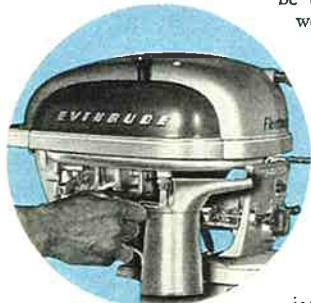
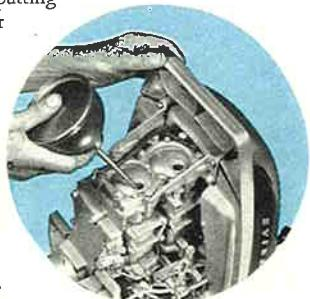

Fig. 21
Fig. 22
Tank and Carburetor. (Fig. 21). It is also a wise precaution to remove the spark plugs, put a couple of teaspoonfuls of pure lubricating oil into the cylinders (Fig. 22) and then revolve the flywheel several times to spread the oil over the cylinder walls before putting the spark plugs back. Drain and fill Gear
If your motor has been idle for some time, or has been stored without following the instructions, "Storing the Motor Away", it is a good plan to squirt a little pure lubricating oil into the cylinders through the spark plug holes. (Fig. 22) This done, the flywheel should be revolved a few times, to spread the oil around the cylinder walls.
8. Put about two to three tablespoonfuls of oil, of the kind you mix with gasoline, in each cylinder, through each spark plug hole, (Fig. 22) and with the spark plugs removed and both wires grounded rotate flywheel rapidly by pulling starter handle. Repeat this process several times, then put spark plugs in cylinders, fill fuel tank with new fuel mixture and proceed to start motor.